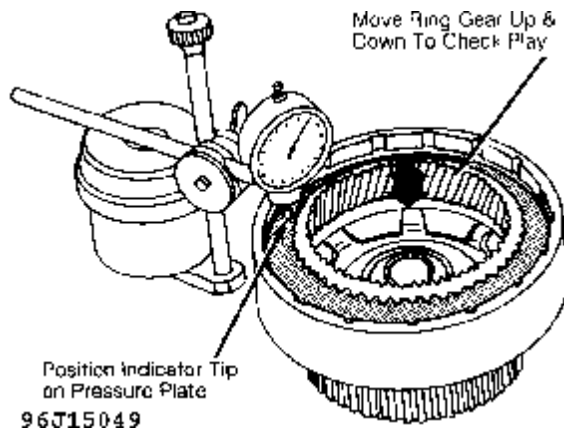

Fig. 12: Measuring Forward Clutch End Play
6) Measure forward clutch end play by moving forward planetary ring gear up and down so that dial indicator will read play between pressure plate and snap ring. See Fig. 12.